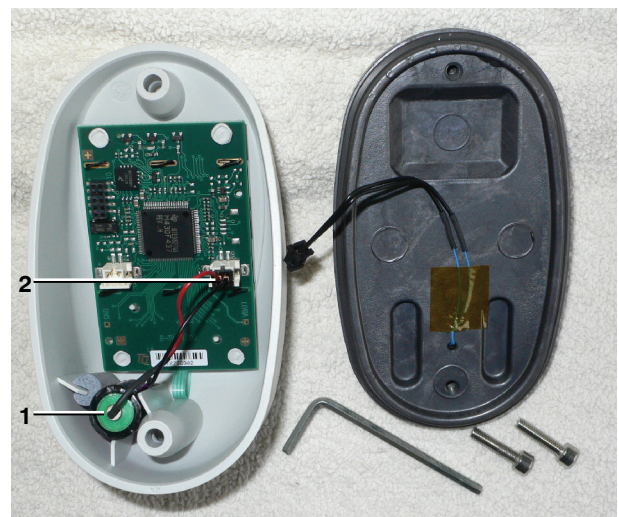

Fig. 4 Battery
The battery (1, Fig. 4) is merely inserted into the holder. To change the battery remove plug (2) and pull out battery. Make sure to use the same type battery (BAUER part no. 82743).